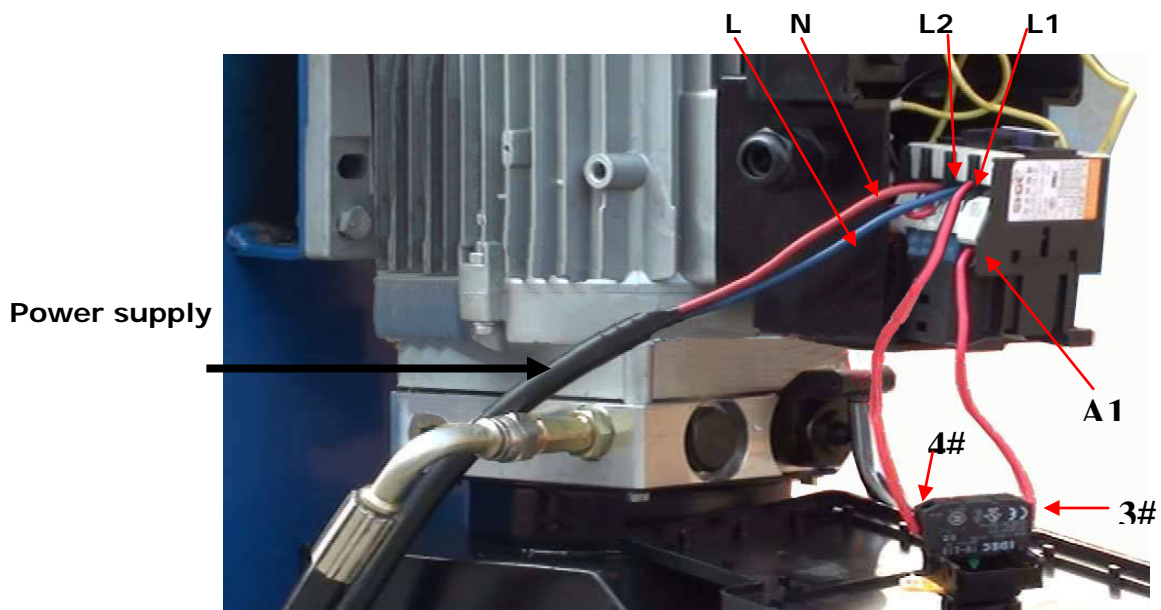

Fig. 30
1.2. Connection step (See Fig. 30)